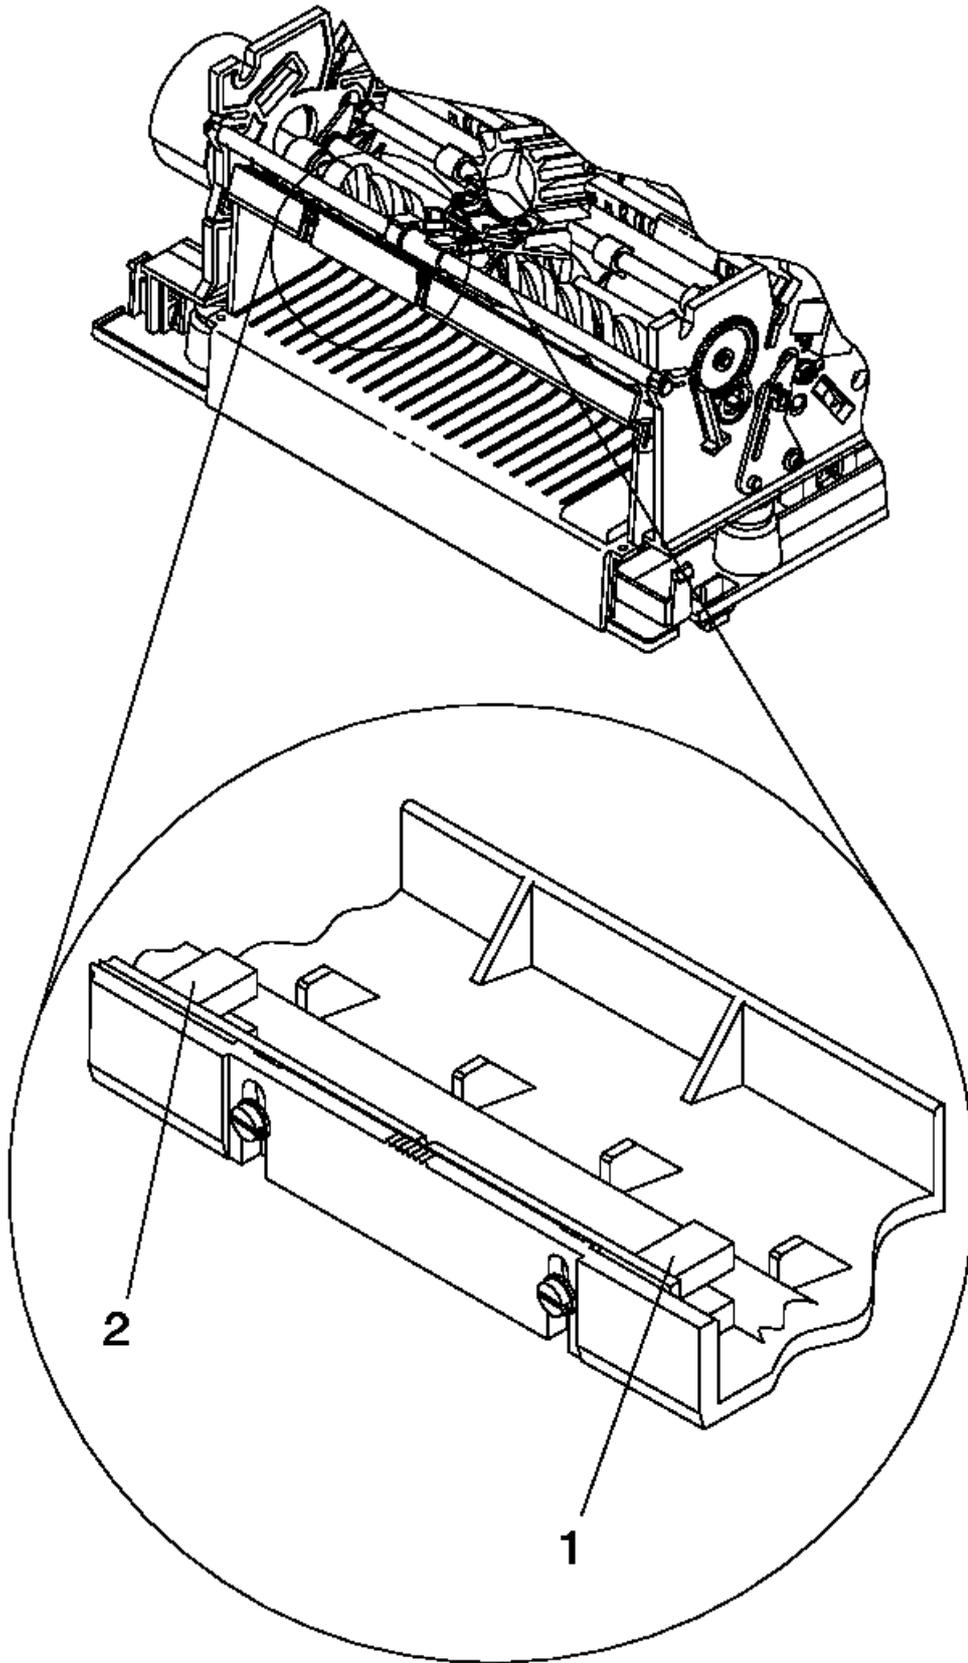

Figure 6-39. Home Sensor Card
4. Use a cotton swab dipped in isopropyl alcohol to clean the two home sensors. See Figure 6-39 in topic 6.36 for an illustration of the home sensors.